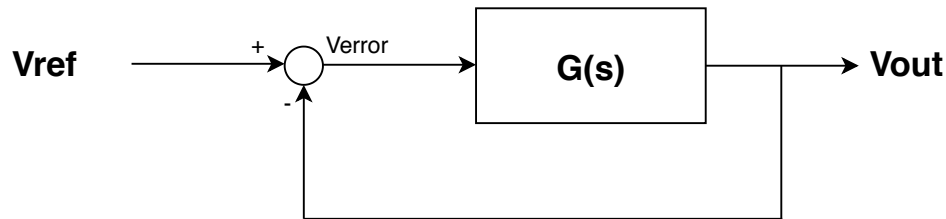

Figure 3: Negative Feedback System
Negative feedback is a process in which the output of the system is feedback to the input in order to improve the system's behaviour. Since we are implementing negative feedback on an electronic circuit we will firstly explore how this can be achieved before designing a controller. Figure 3 below, shows the block diagram for negative feedback without a controller.
- Using an ideal op amp, establish the relationship of V' to $V1$ and $V2$, if $R1=R2=R3=R4$. Therefore conclude on the values of V' , $V1$ and $V2$ with respect to V_{ref} , V_{out} and V_{error} shown in Figure 3.